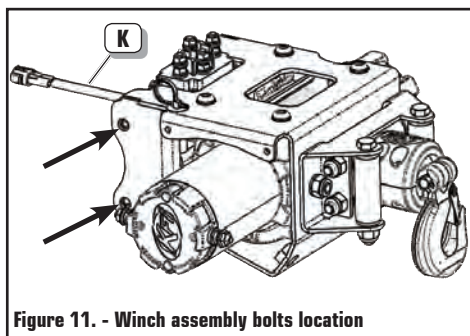

Figure 11. - Winch assembly bolts location
- Route the wire over to the contactor location on the winch assembly and connect it to the other 2-pin connector [K] that is coming from the contactor shown in Figure 11.